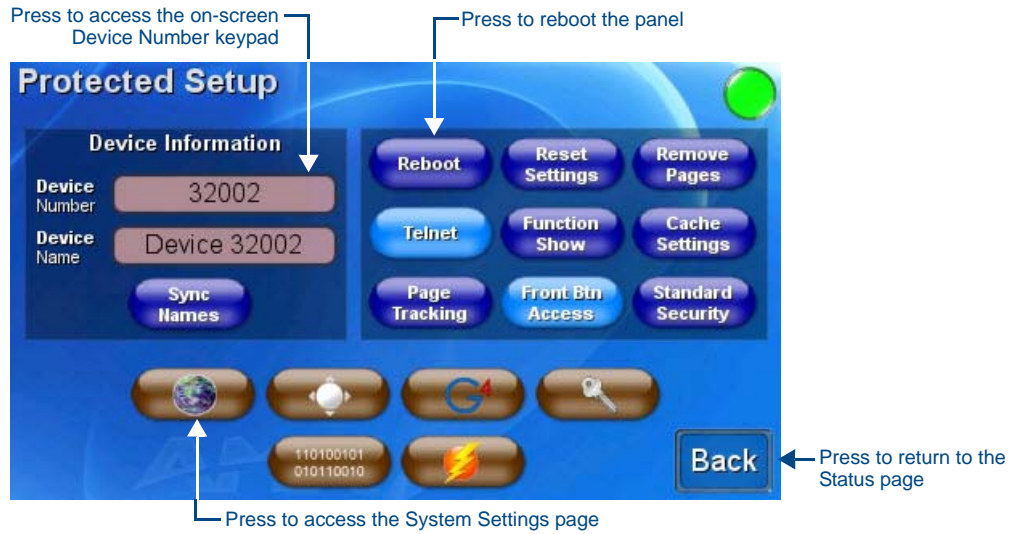
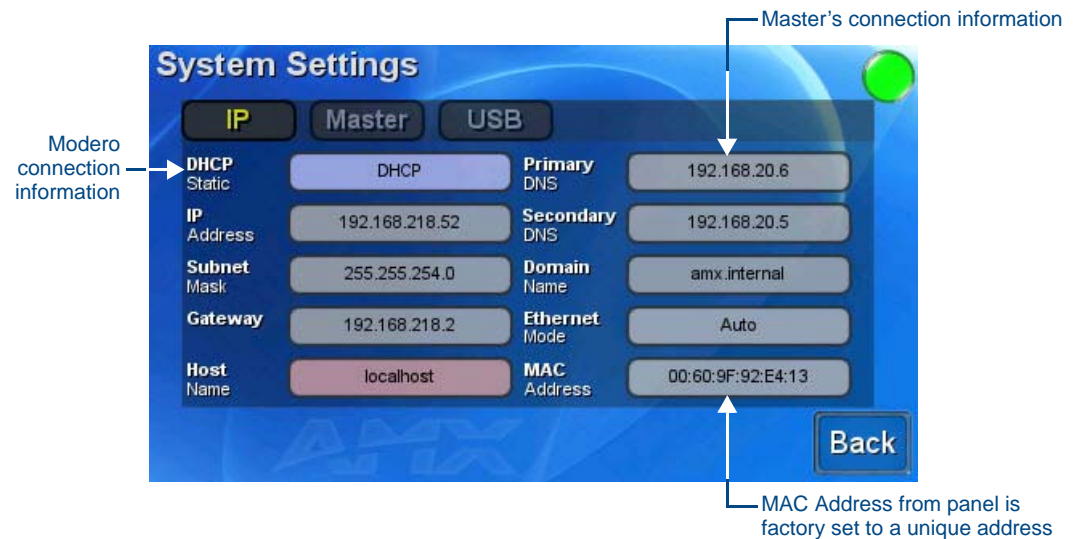

FIG. 19 Protected Setup Page
FIG. 20 System Settings page
4. Press the red *Device Number* field to open the Device Number keypad (FIG. 19).
8. Press the **System Settings** button (see FIG. 19) to open the *System Settings* page (FIG. 20 on page 25) and begin configuring the communication settings on the panel to match those of the target Master.